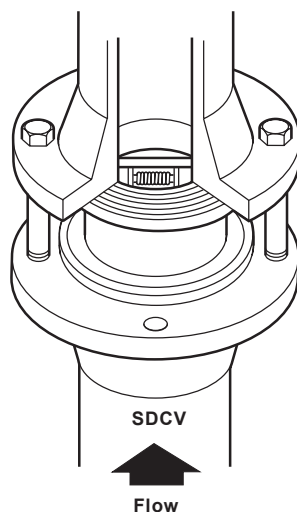
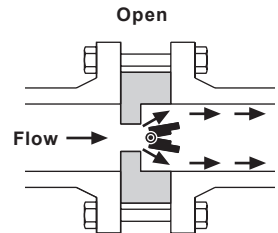
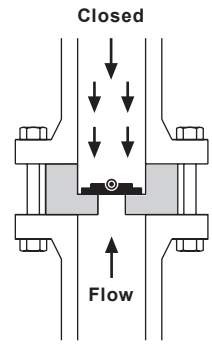

Fig. 1 An SDCV disc check valve shown sandwiched between flanged connections
Fig. 3
Fig. 4
- 3.5** Split disc check valves simply fit between two pipe flanges (see Figure 1, page 5). Standard gaskets are used either side of the valve together with longer bolts or studs. **Note: Flanges, bolts (or studs), nuts and joint gaskets are to be provided by the installer.** Normal sensible flange practice should be followed e.g. torque tightening the bolts in opposite sequence. Install the SDCV in the pipeline checking that it has been fitted with the flow in the direction of the arrow on the valve body. If the valve is in a horizontal pipeline the hinge pin must be in the vertical position for correct operation. Split disc check valves can be installed with the liquid/gas flowing horizontally into the valve (Figure 3 valve shown in the open position), or with the liquid/gas flowing vertically upwards through the valve (Figure 4 valve shown in the closed position). Split disc check valves are not recommended for installation with the liquid/gas flowing vertically down through the valve.